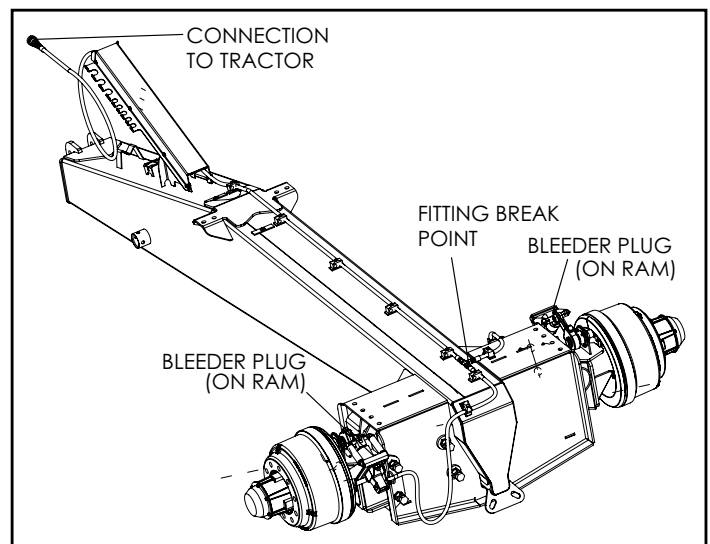

Figure 31 - Bleed Brakes
7. After 5 minutes, break the line at the highest point (Figure 31).